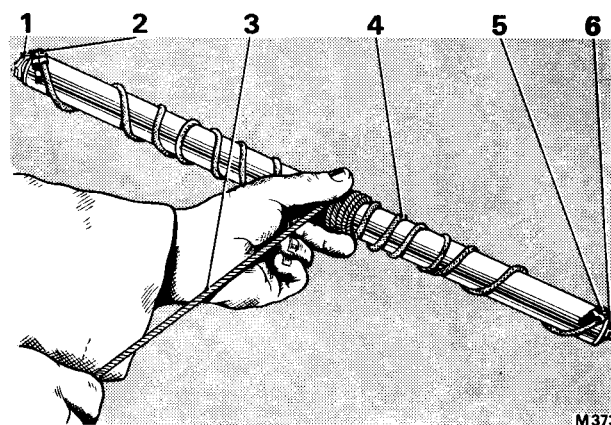

FIG. S64 TENSION ROLLER READY TO FIT
6. Attach a 5 ft. (1,52 m.) length of strong string midway along the loop of the tensioning cord. Holding the string at 90° to the roller to take up the slack in the cord, rotate the roller away from the string (anti-clockwise when viewed on the ratchet end of the roller) until the cord is wound onto the roller (see Fig. S64); the point where the string is attached to the cord should now be approximately half-way along the roller. Continue to rotate the roller until there are ten complete coils of the string around the roller.